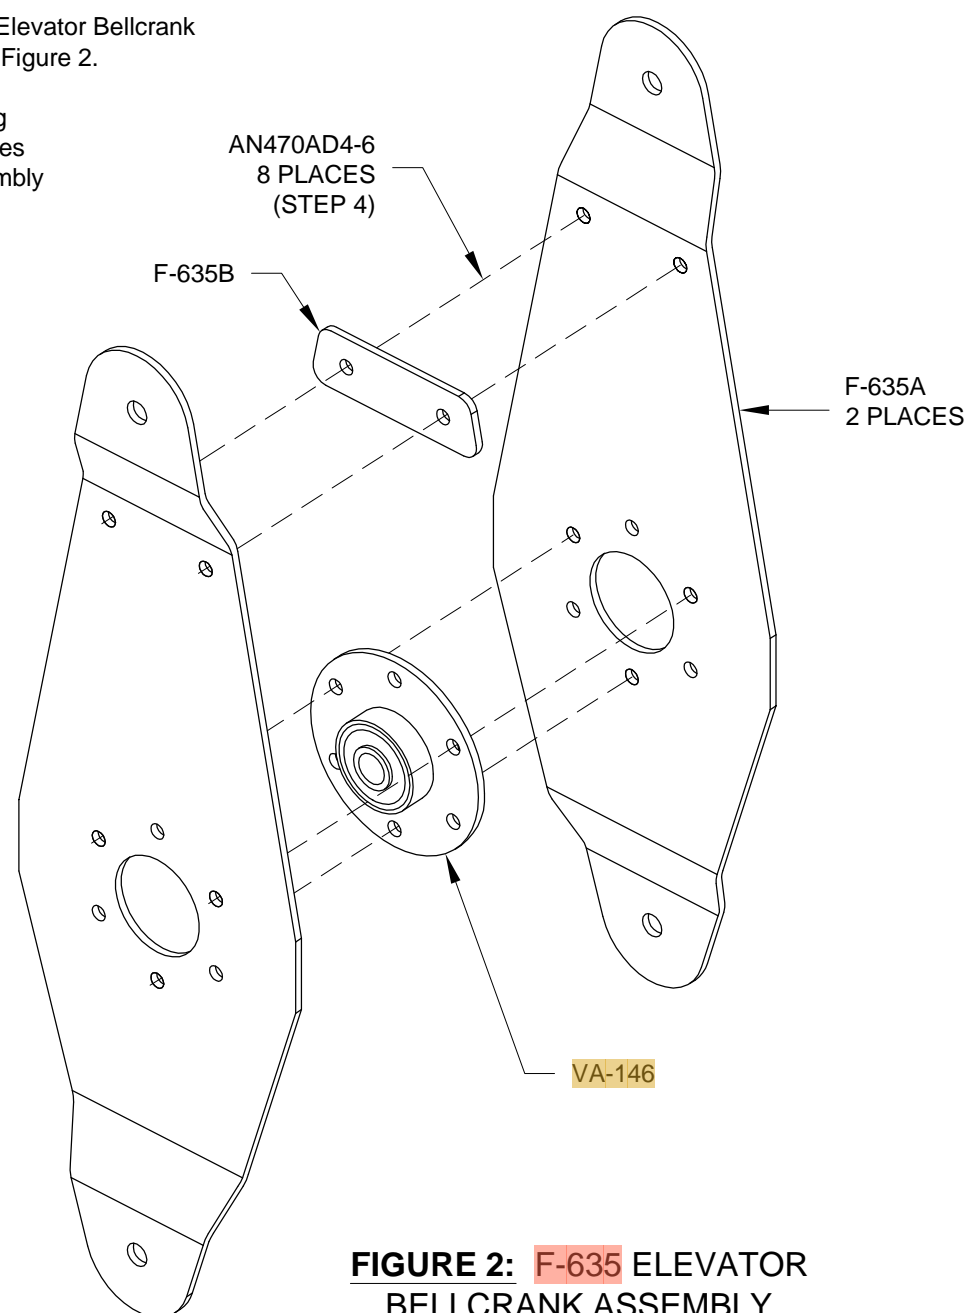

FIGURE 2: F-635 ELEVATOR BELLCRANK ASSEMBLY
Step 4: Rivet together the F-635 Elevator Bellcrank Assembly using the rivets called out in Figure 2.